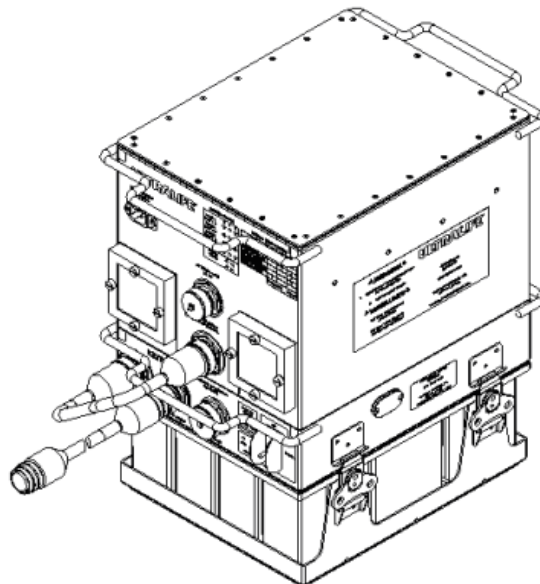

Figure 3-10 System Stack-Up
10. See figure 3-10 for a finished view of what these connections should look like.